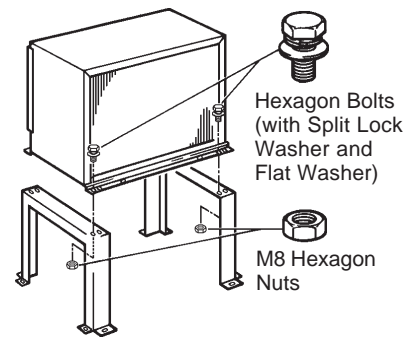

Fig. 6
1) Secure the Legs to the Condenser Unit with eight M8 x 16 mm Hexagon Bolts and M8 Nuts as shown in the illustration. See Fig. 6.